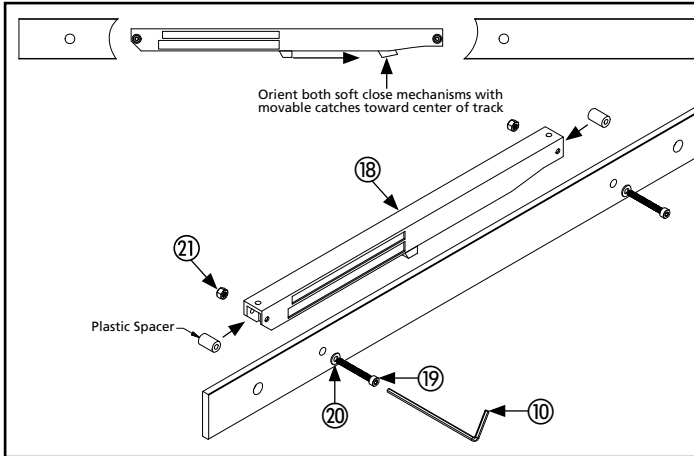

Figure 17. Soft Close Orientation
1. Align the soft closes ⑱ on the track as shown in Figure 17, with movable catches loaded towards the center of the track.
3. Fasten the soft close to the track using the supplied M4 x 35mm socket cap screws ⑲, M6 washers ⑳ and M4 locking nuts ㉑.
4. Fasten with supplied 3mm Allen wrench ⑩.
2. Check the position of soft close catch. Both should be loaded towards the center as noted in Step 5: Soft Close and Track Installation, Figure 17.